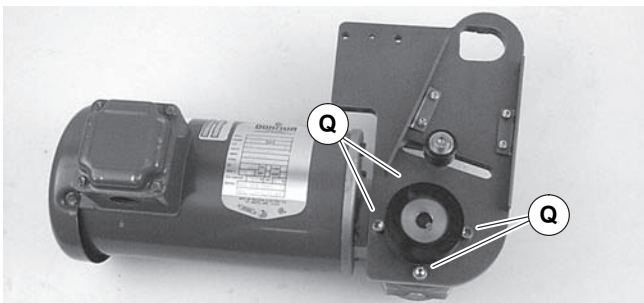

Figure 11
- If required, change gearmotor position by removing four (4) screws (Figure 11, item Q). Rotate gearmotor to other position and replace screws (Q). Tighten to 103 in-lb (12 N-m).